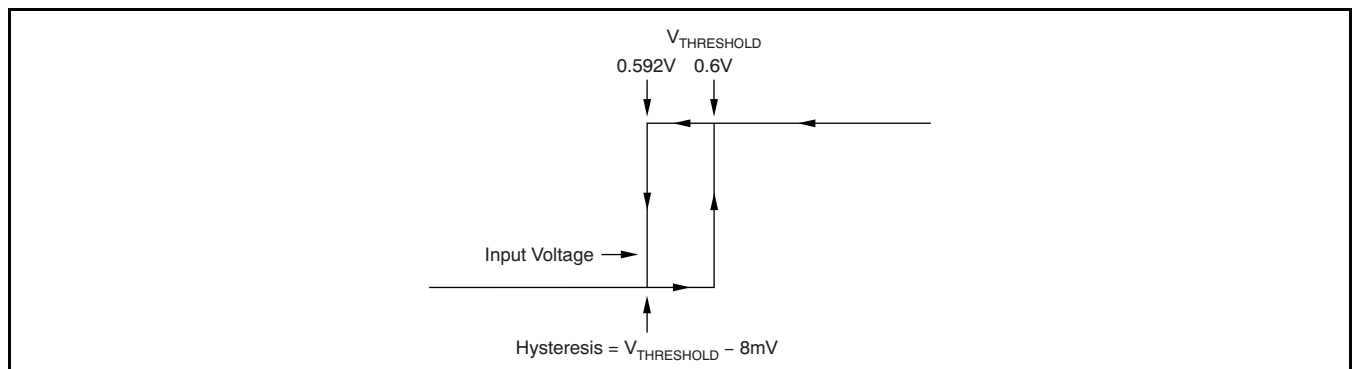

Figure 2. Typical Comparator Hysteresis
- (1) Hysteresis refers to the threshold (the threshold specification applies to a rising edge of a noninverting input) of a falling edge on the noninverting input of the comparator; refer to Figure 2.
- (2) Specified by design.
- (3) V_{ID} refers to the differential voltage at the comparator inputs.
- (4) Open-drain output can be pulled to the range of +2.7V to +18V, regardless of V_S .
- (5) The comparator response time specified is the interval between the input step function and the instant when the output crosses 1.4V.
- (6) The $\overline{\text{RESET}}$ input has an internal 2M Ω (typical) pull-down. Leaving $\overline{\text{RESET}}$ open results in a LOW state, with transparent comparator operation.